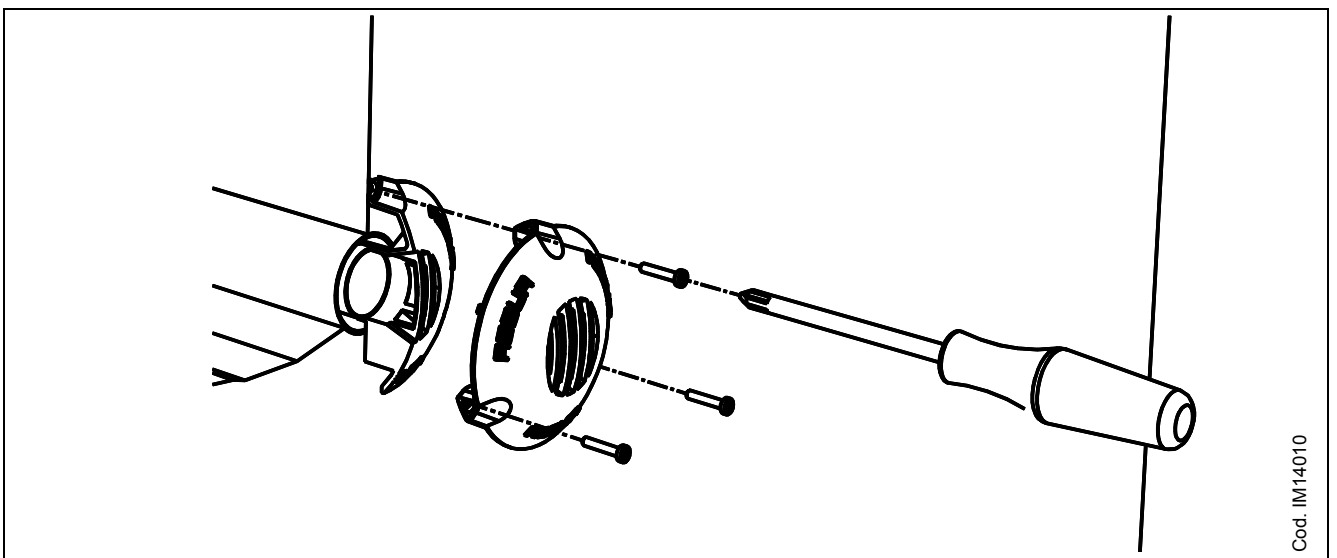

Figure 24 - TERMINAL GRID INSTALLATION
21. When installation is complete proceed with the location of the aluminium terminal grid to the external wall. The terminal grid should perfectly match the pipe end. Draw the location of the three holes for the screw anchors (see Figure 24). The exhaust fumes grid must be installed vertically
23. Relocate the terminal and fix it with the screws (see Figure 24).